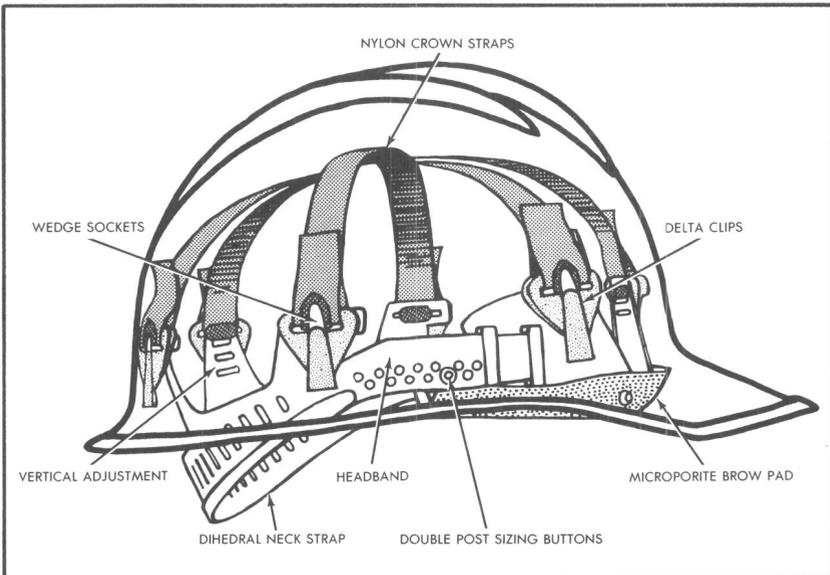

FIGURE 2
2.02 The suspension for the safety cap consists of a molded plastic band with a vinyl sweatband and nylon crown straps attached. The crown straps are not adjustable, but are fixed to provide clearance between the top of the head and the inside of the cap shell. The suspension has six points which attach to the cap using delta shaped plastic clips. The sweatband is a moisture absorbing microporite brow pad which is attached in the front of the headband. Sizing buttons are located on either side and are adjustable in increments of 1/16 inch of standard hat sizes. Detailed illustration is shown in Figure 2. Instructions for headband adjustment are: